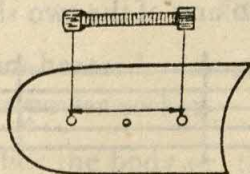

FIG. 2.4.13
12. Drill two holes on the horizontal middle line of the reflector at a distance equal to the length measured above by using a suitable drill bit for fixing the clamps. Drill a third hole in the middle of these two holes for fixing a small screw with two nuts and washers to connect earth-wire. Fig. 2.4.13.